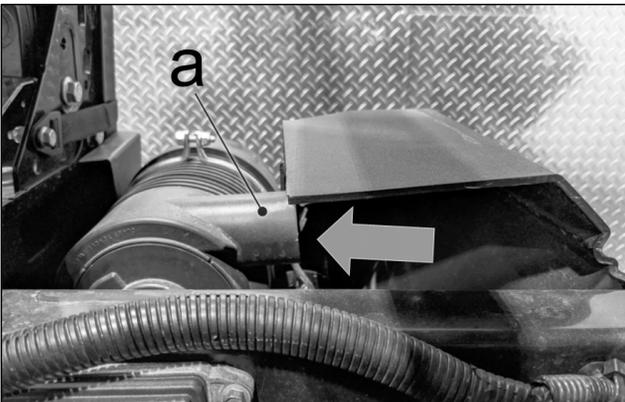

Figure 1
- 1.1 Raise Cargo box to access the vehicle's motor and locate the motor's air intake (a), on the right side of the vehicle. See Figure 1.